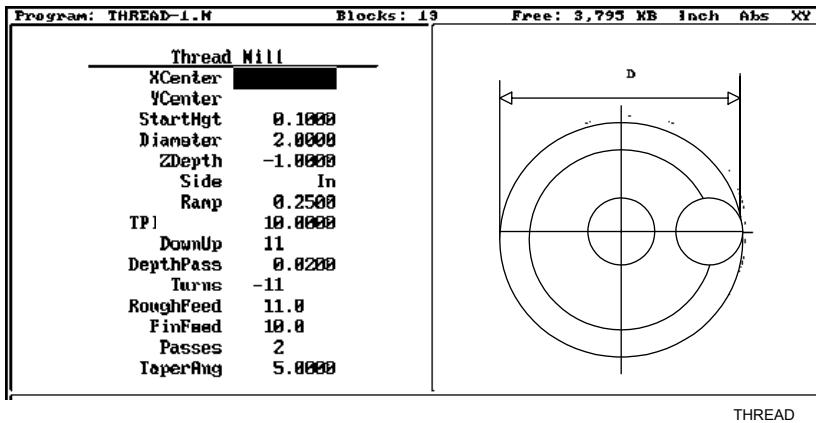

Figure 4-8, Thread Mill Graphic Menu
2. Select **Thread Mill** from the pop-up menu, and press **ENTER** to display the **Thread Mill Graphic Menu**. Refer to **Figure 4-8**.